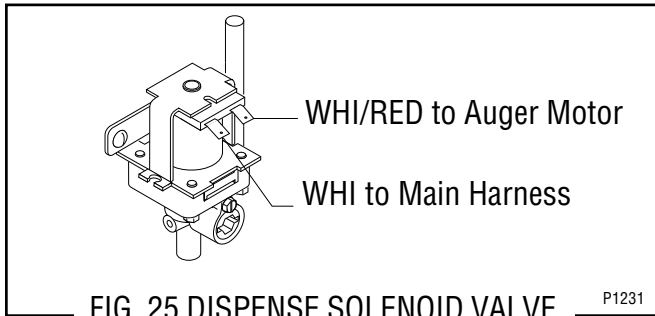

FIG. 25 DISPENSE SOLENOID VALVE
- Refer to Fig. 25 when reconnecting the wires.